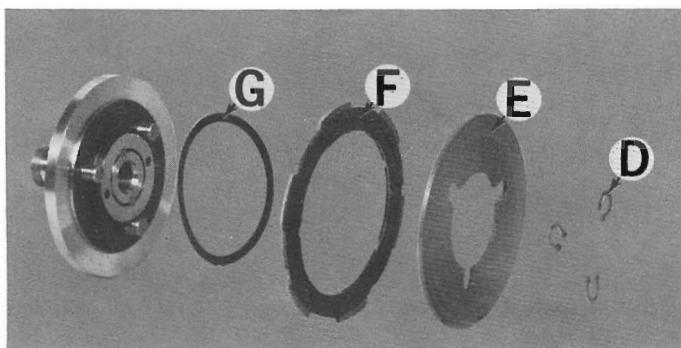

Figure 124 — Cross Feed Clutch Components
- (C). Remove snap rings "D", Figure 124, clutch disc "E", clutch plate "F" and wave washer "G".